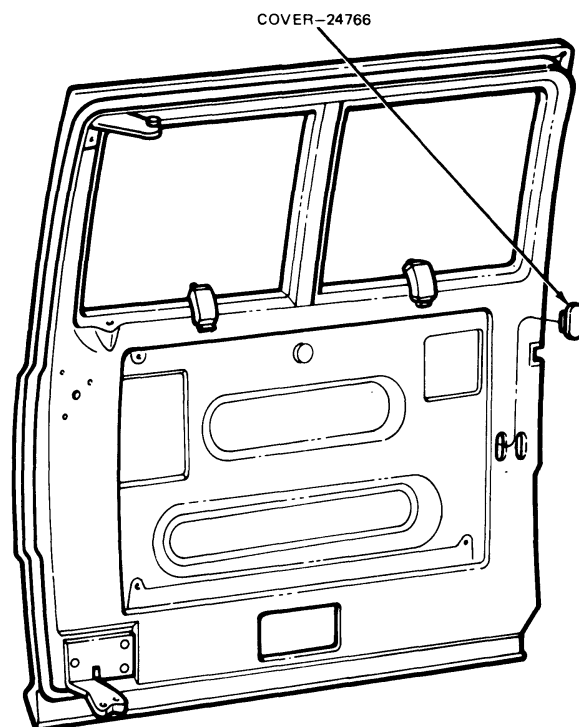

FIG. 6 Sliding Door—Access Hole Covers—E-100—E-350
3. Remove the door trim panel and/or access hole covers (if so equipped) (Fig. 6).